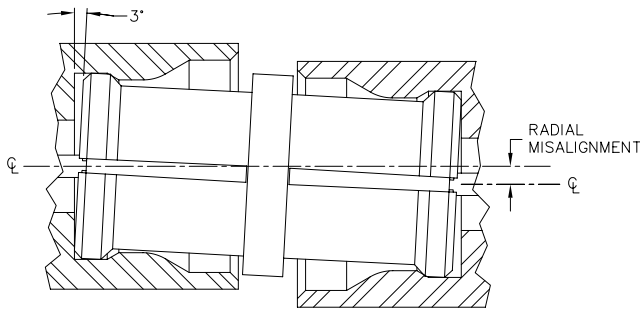

Figure 4 - Radial Misalignment
Figure 4 shows the BMI mated between two (2) connectors that are radially misaligned from centerline to centerline. The amount of radial misalignment is dependent upon the length and angle of the BMI. The GPO standard angle of 3° is mainly a function of the allowable connector housing movement.